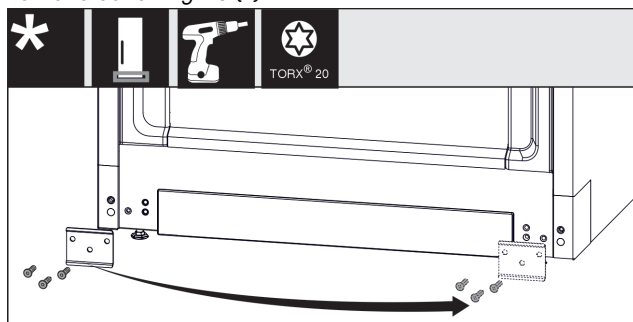

Fig. 14
- ▶ Unscrew the plate Fig. 14 (1), move it to the other side and screw it back on.